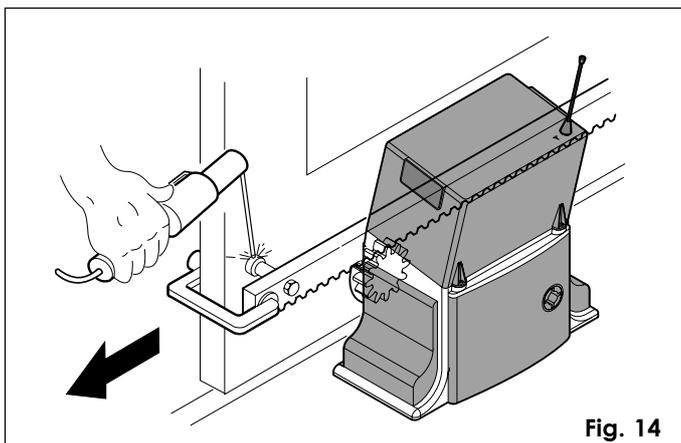

Fig. 14
- Lay the first piece of rack at appropriate level on the pinion and weld the threaded pawl on the gate as shown in figure 14.